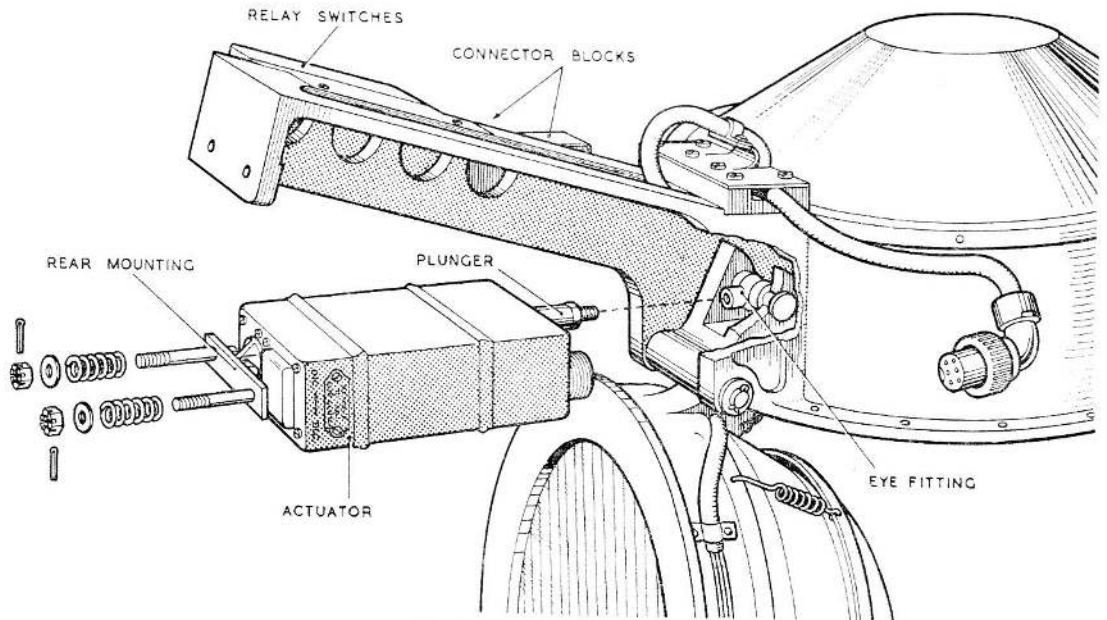

Fig. 2. Actuator mounting
13. The actuator is secured to the lamp housing by a pivot pin, passing through a bearing in the rear end fitting of the actuator, and a bracket, spring mounted to the lamp housing (*fig. 2*).